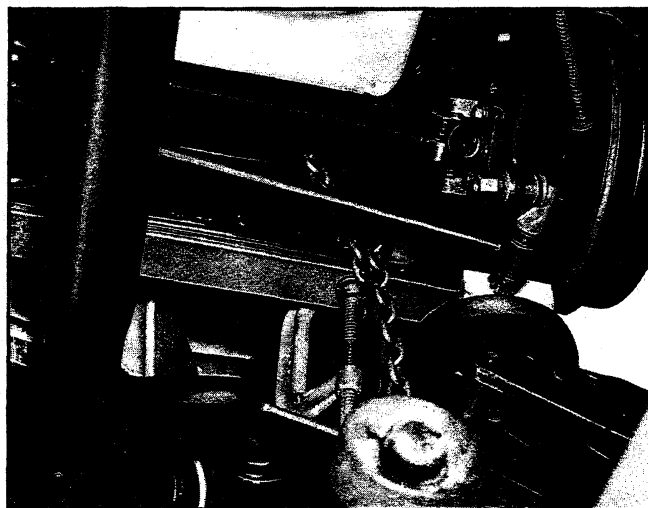

Fig. 57—Chain Installation (Corvette)
3. Wrap 1/4" or 5/16" chain with grab hook around suspension crossmember and spring and hook chain securely with grab hook. Secure chain to spring with C clamp to prevent slipping (fig. 57).